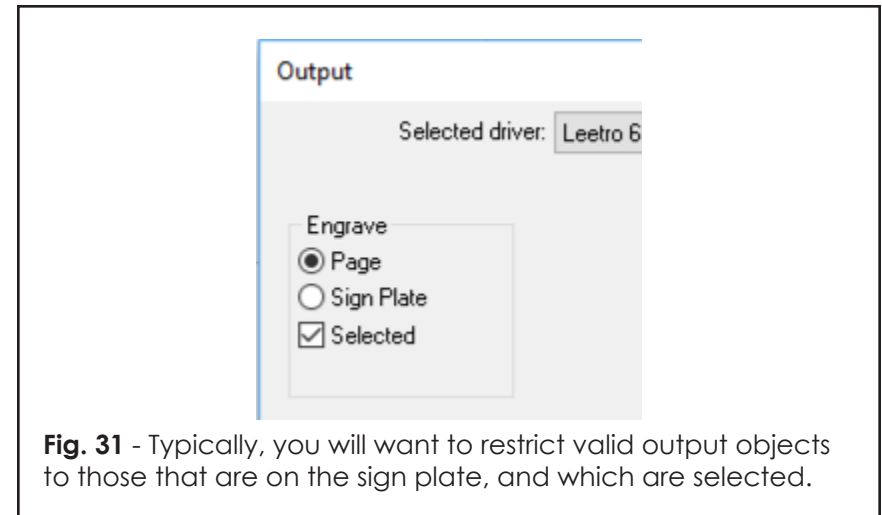

Fig. 31 - Typically, you will want to restrict valid output objects to those that are on the sign plate, and which are selected.
- d) For the **Engrave** setting (Fig. 31), choose between **Page** and **Sign Plate**, which are applied as follows: